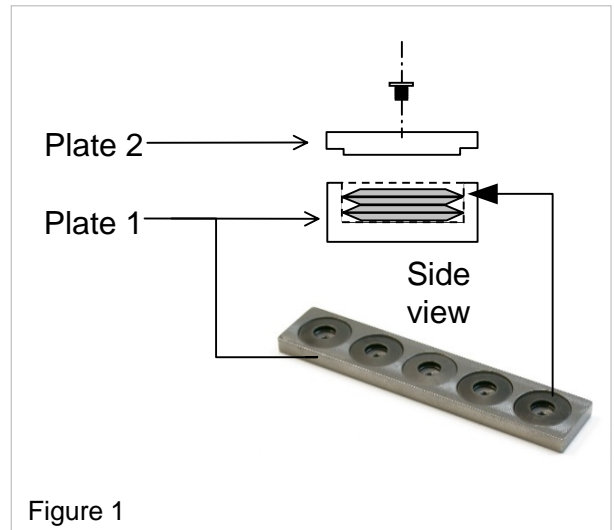

Figure 1
- 2 Remove stainless steel disk springs, dry and wipe clean, coat with an appropriate silicone sealant. Place the stainless steel disk springs in sequence as shown in Figure 1 (four disks each column)